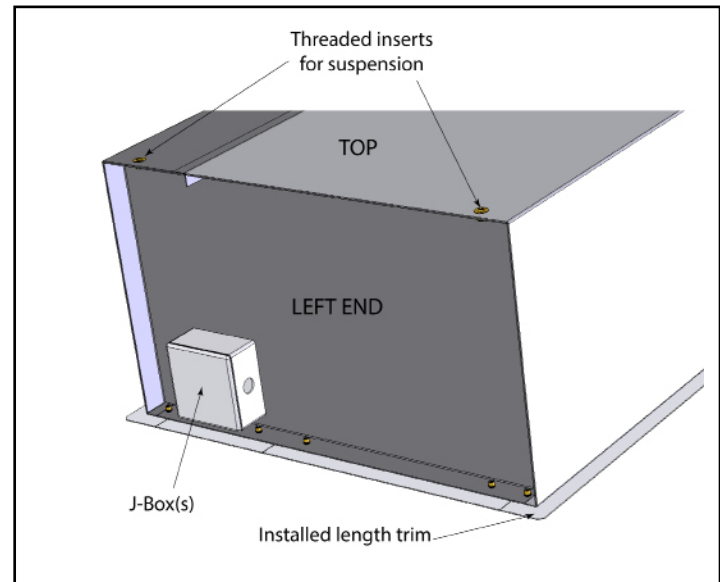

Figure 4
- A. The Architectural Recessed 12/16 series air curtain enclosure is equipped with four 1/2" holes on the top of the unit for suspended mounting. **See Figure 4.**
**See Figure 4.**